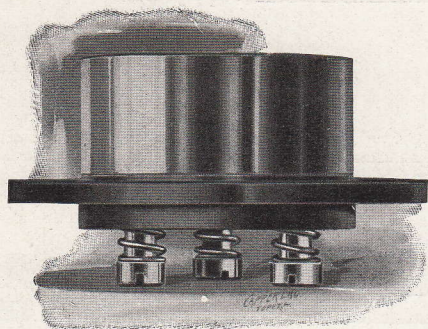

Fig. 8
To remove the upper bearing (see Fig. 8), first remove the screws which fasten the plate (HG) to the machine and lift the bearing out. It may then be examined, and cleaned by means of a soft cloth. The springs and parts may easily be taken apart, as there is no danger in putting it together wrong. The screws which control spring pressure are tightened snugly into place. The bearing may then be returned to its